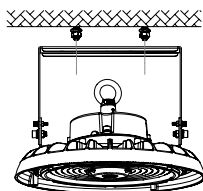
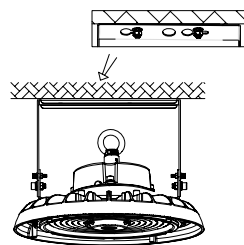

FIGURE 5
FIGURE 6
3. Align bracket hole with screw hole (Figure 5) and push the fixture to one side (Figure 6), and secure it.